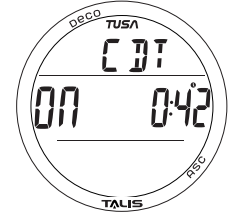

Fig. 95 - FREE DIVE ALT 1
**FREE Dive ALT 1 (CDT)**, information includes (Fig. 95) -